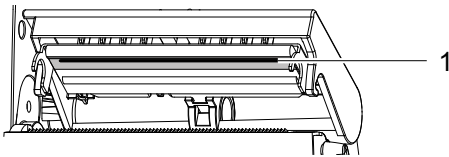

Fig. 16 Printhead Line
- ▶ Turn shaft (6) clockwise using a torx wrench TX10 until the gear racks (7) cannot engage anymore.
- ▶ Pull upper blade (9) out of the guides (8).
- ▶ Take out lower blade (10).
- ▶ Push lower blade down into the guides (11).
- ▶ If necessary, put springs (12) back into spring retainers (13).
- ▶ To re-mount the upper blade push lower blade down on the cover and push upper blade into the guide until the gear racks (7) can engage with the gear wheels (5).
- ▶ Turn shaft (6) counterclockwise using a torx wrench TX10 until the blade reaches the upper limit.
5. Fit blade unit (3) according to Fig. 16 into the axes (2) and fold it towards the cover (4) until it snaps in.